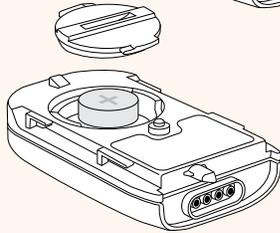

Fig. 2
- d. Insert a NEW silver oxide 357 HC battery with the plus sign (+) facing you. (Fig. 2)